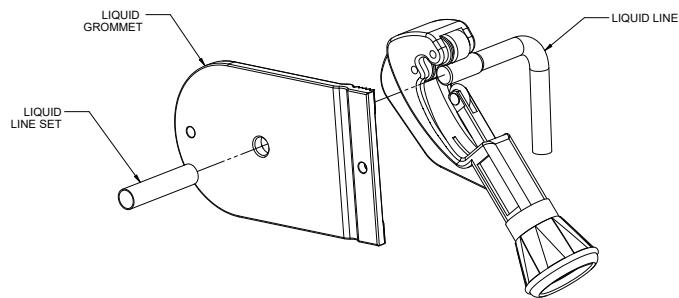

Figure 10A
4. Remove the spin closure on both the liquid and suction tubes using a tubing cutter (Refer to Figure 10A, 10B and 10C). DO NOT USE A CUTTING METHOD THAT WOULD RESULT IN THE GENERATION OF COPPER SHAVINGS OR COPPER DUST.